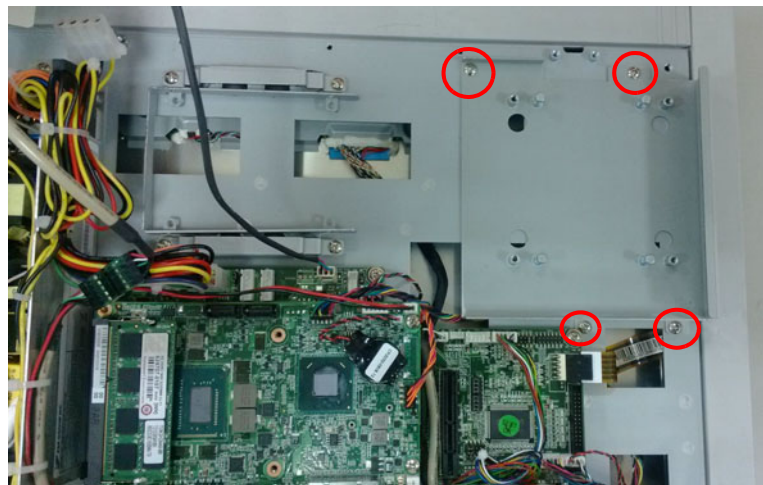

Figure 2.12
1. Remove the four screws as shown in Fig 2.12, and take out the HDD2 bracket.